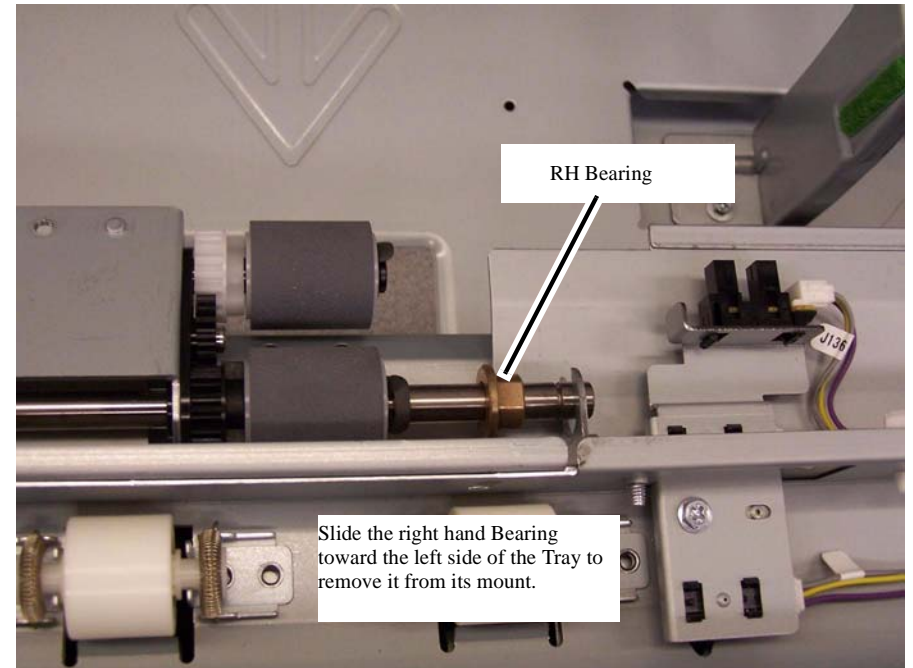

Figure 4 Moving the RH Bearing out of its mount
- b. Slide the right hand Bearing along the shaft and out of its mount (Figure 4).